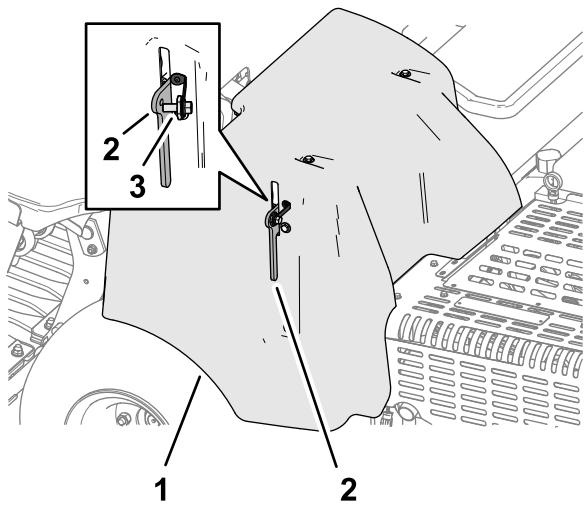

Figure 136
- If your machine has the CE belt-cover latch lanyard, thread the lanyard bolt into the hole in the cover latch, and tighten the bolt (Figure 136).